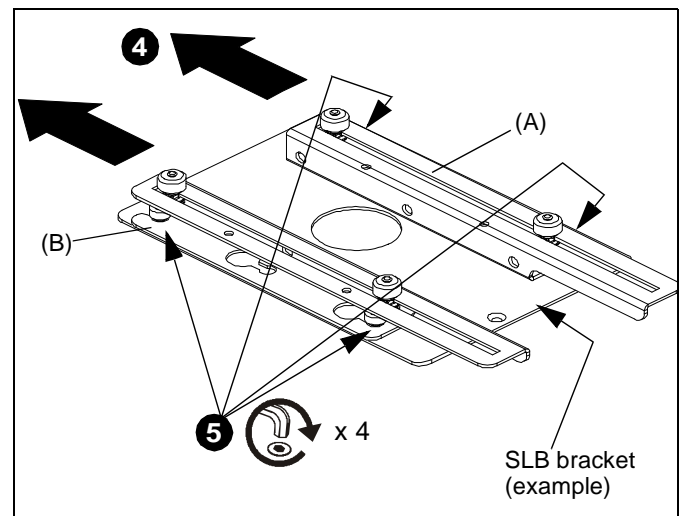

Figure 3
4. Slide LSB brackets (A) and (B) so that thumb nuts on SLB interface bracket rest in the narrow end of key slots on LSB brackets. (See Figure 3)
5. Secure LSB100 brackets (A) and (B) onto SLB interface bracket by tightening SLB thumb nuts. (See Figure 3)